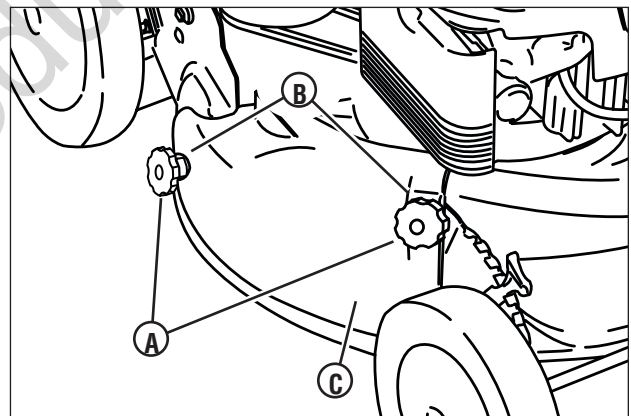

Figure 8: Removing the recycling cover
1. Remove the knob nuts (A, Figure 8) and internal/external tooth lock washers (B) securing the recycling cover (C) to the mower deck.